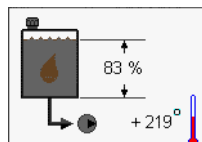

FIGURE 2-2
2. Check hydraulic oil level daily when oil is cold by looking at hydraulic tank display on information screen in cab (Figure 2-2).